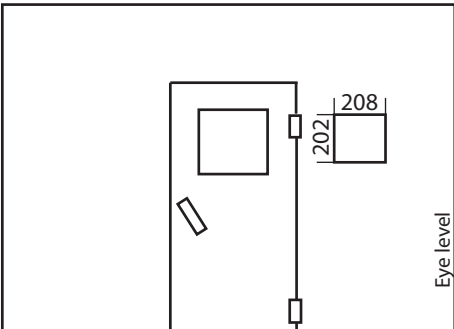

Fig. 5
1. Cut out a wall section that is at least 3.5 cm deep according to the dimension in Fig. 5.